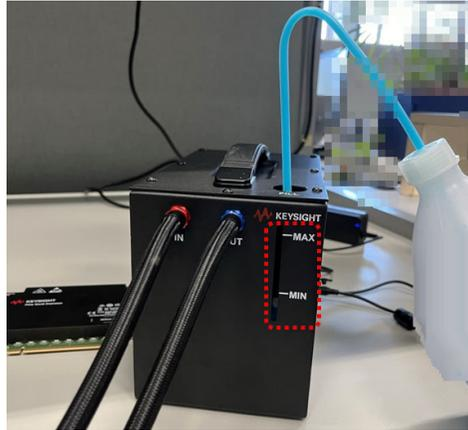

Figure 12 Adjusting coolant level between MIN and MAX markings
- Now, power on the heat exchanger. Upon the first power-up, the pump will start running and empty the heat exchanger tank. Keep filling the heat exchanger tank until the coolant level gets stable between “MIN” and “MAX” markings as shown in Figure 12. Then seal the tank by screwing in the lid. The Analyzer module is now ready for use.